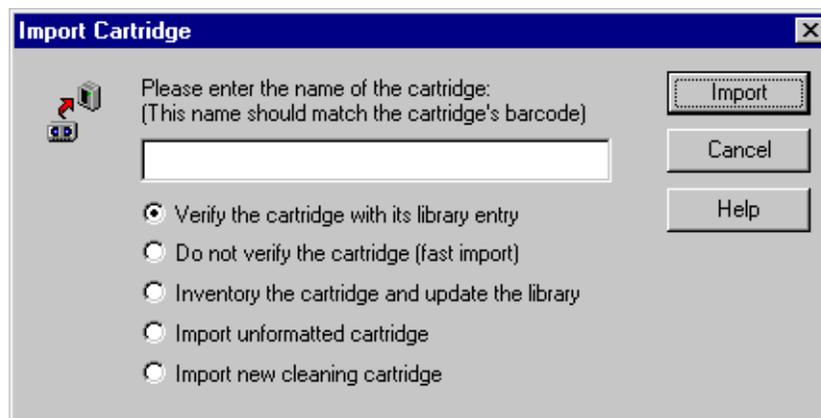

Figure 59. Import Cartridge dialog box
2. Choose **Import** either from the **File** menu or from the shortcut menu with a right-click. The Import Cartridge dialog box appears (see Figure 59). If you have two or more PLS20 systems connected simultaneously, you must enter a drive number when prompted.